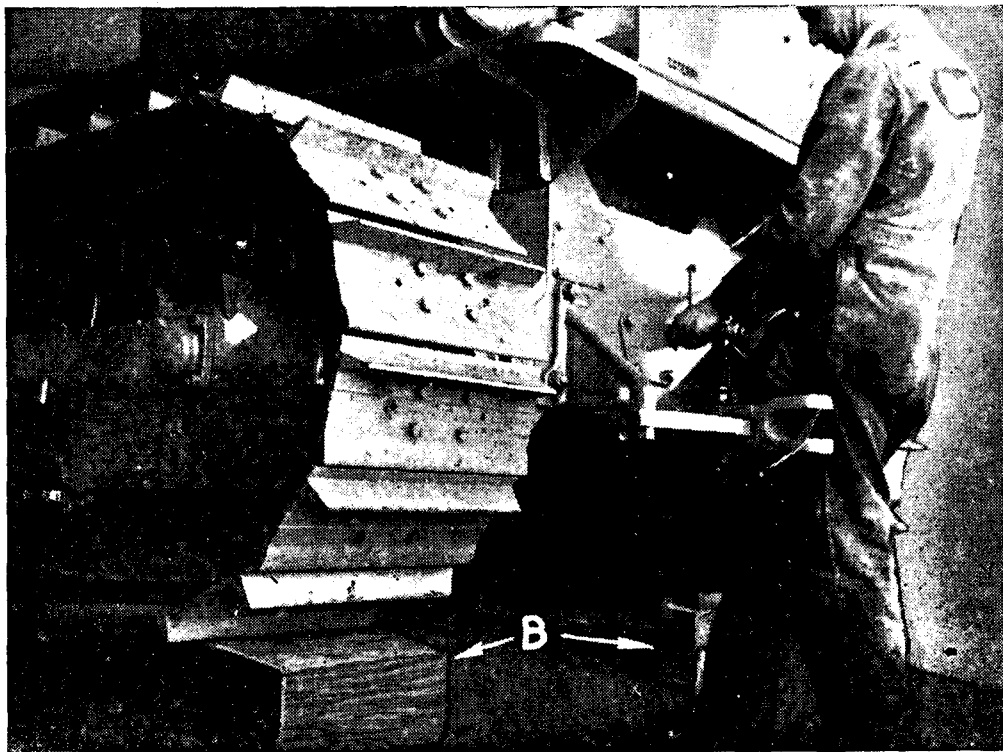

Figure 6
1. Block up rear of tractor on blocks (B), Figure 6, at least ten inches high, to prevent oil from running out of transmission case when covers are removed.
1. Raise rear end of tractor, placing blocks at least 10 inches high under the tracks as shown in Figure 6 (page 14). This will prevent oil running out of transmission case when winch is removed.